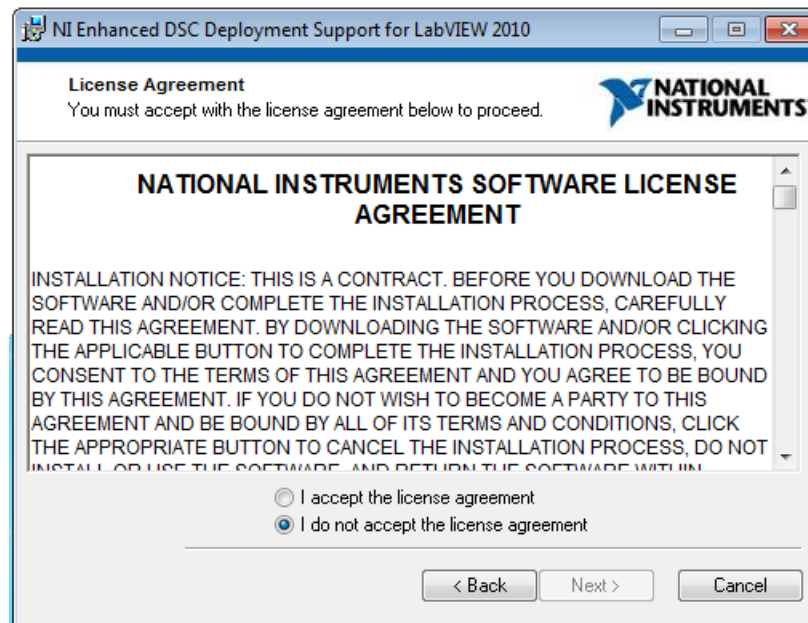

Figure 26. LabVIEW RTE License Agreement
3. The License Agreement appears as shown in Figure 26. Read through the agreement carefully and enable the “I Accept the License Agreement” radio button, then press the *Next >* button.